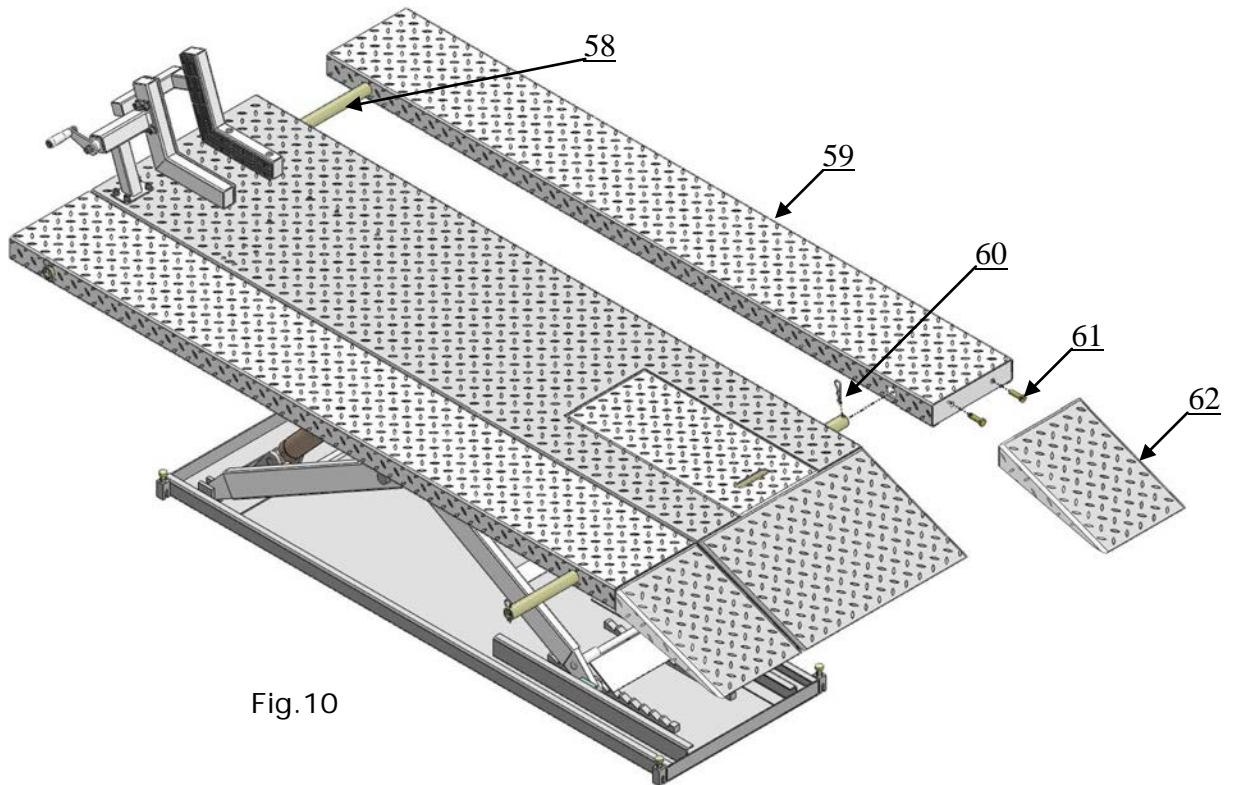

Fig.10
F. Install width extension kit (optional). See Fig 10